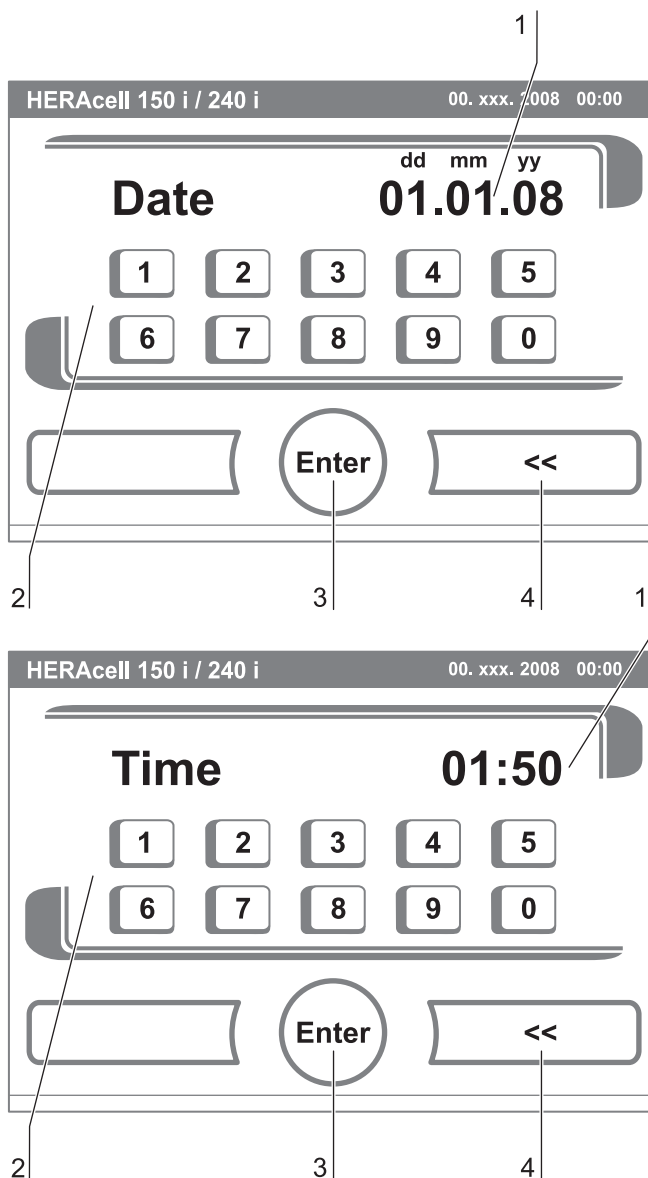

Fig. 41: Date / time setting
1. **Fig. 41:** To enter the date: